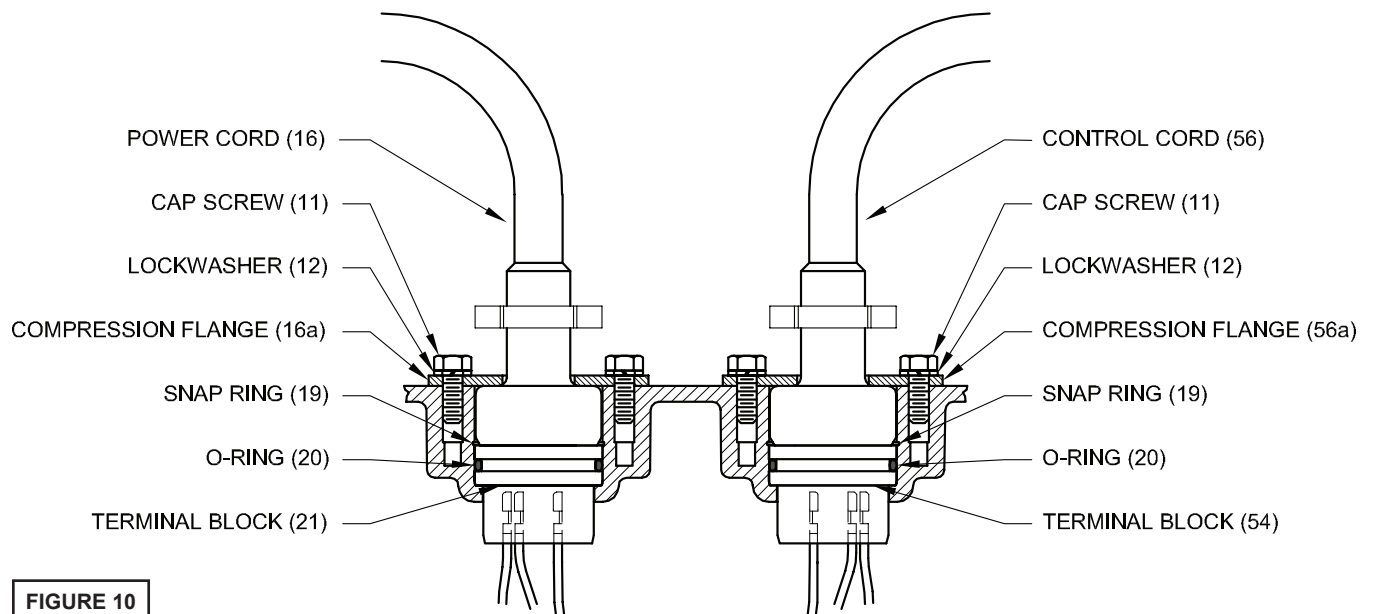

**FIGURE 9**
Remove the motor bolts and lift motor stator from seal plate (5). Disconnect capacitor leads from capacitor (9, single phase units). Examine bearing (25) and replace if required. If replacement is required, remove bearing (25) from motor shaft using a wheel puller or arbor press, see Figure 9.